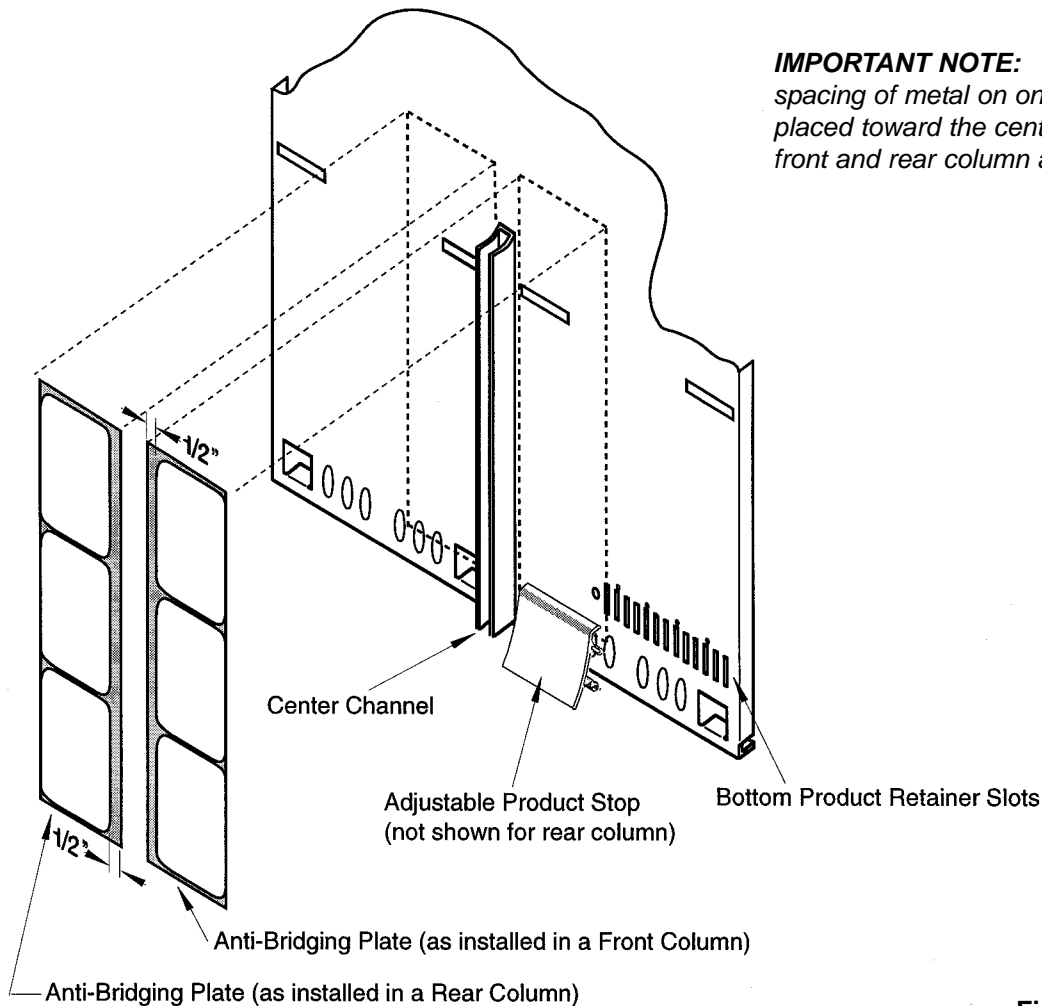

Figure 4
INSTALLATION OF ANTI-BRIDGING PLATE ASSEMBLY (See Figure 4)
3. Place the "Anti-Bridging Plate" on the column wall against the center channel (divider between the front and rear columns). Make sure that the edge of the "Anti-Bridging Plate" with 1/2" of metal exposed is aligned against the center channel as shown in Figure 4. Locate the bottom edge of the "Anti-Bridging Plate" just beneath the top edge adjustable product stop as shown in Figure 4.
NOTE: There is only one "Anti-Bridging Plate" per kit and it is to be installed on the right column wall as shown below in Figure 4